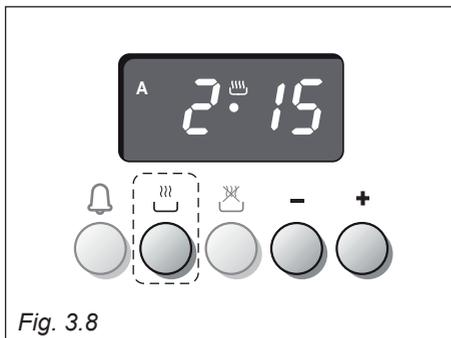

Fig. 3.8
1. Set the cooking time by pressing button  and then  to move forward or  to move back if you have gone beyond the required time (fig. 3.8).